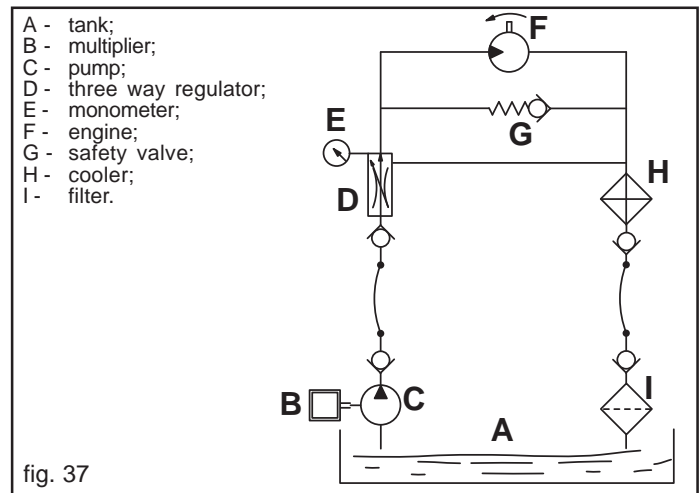

fig. 37
- Oil supply: follow the data in the table in Fig. 37.